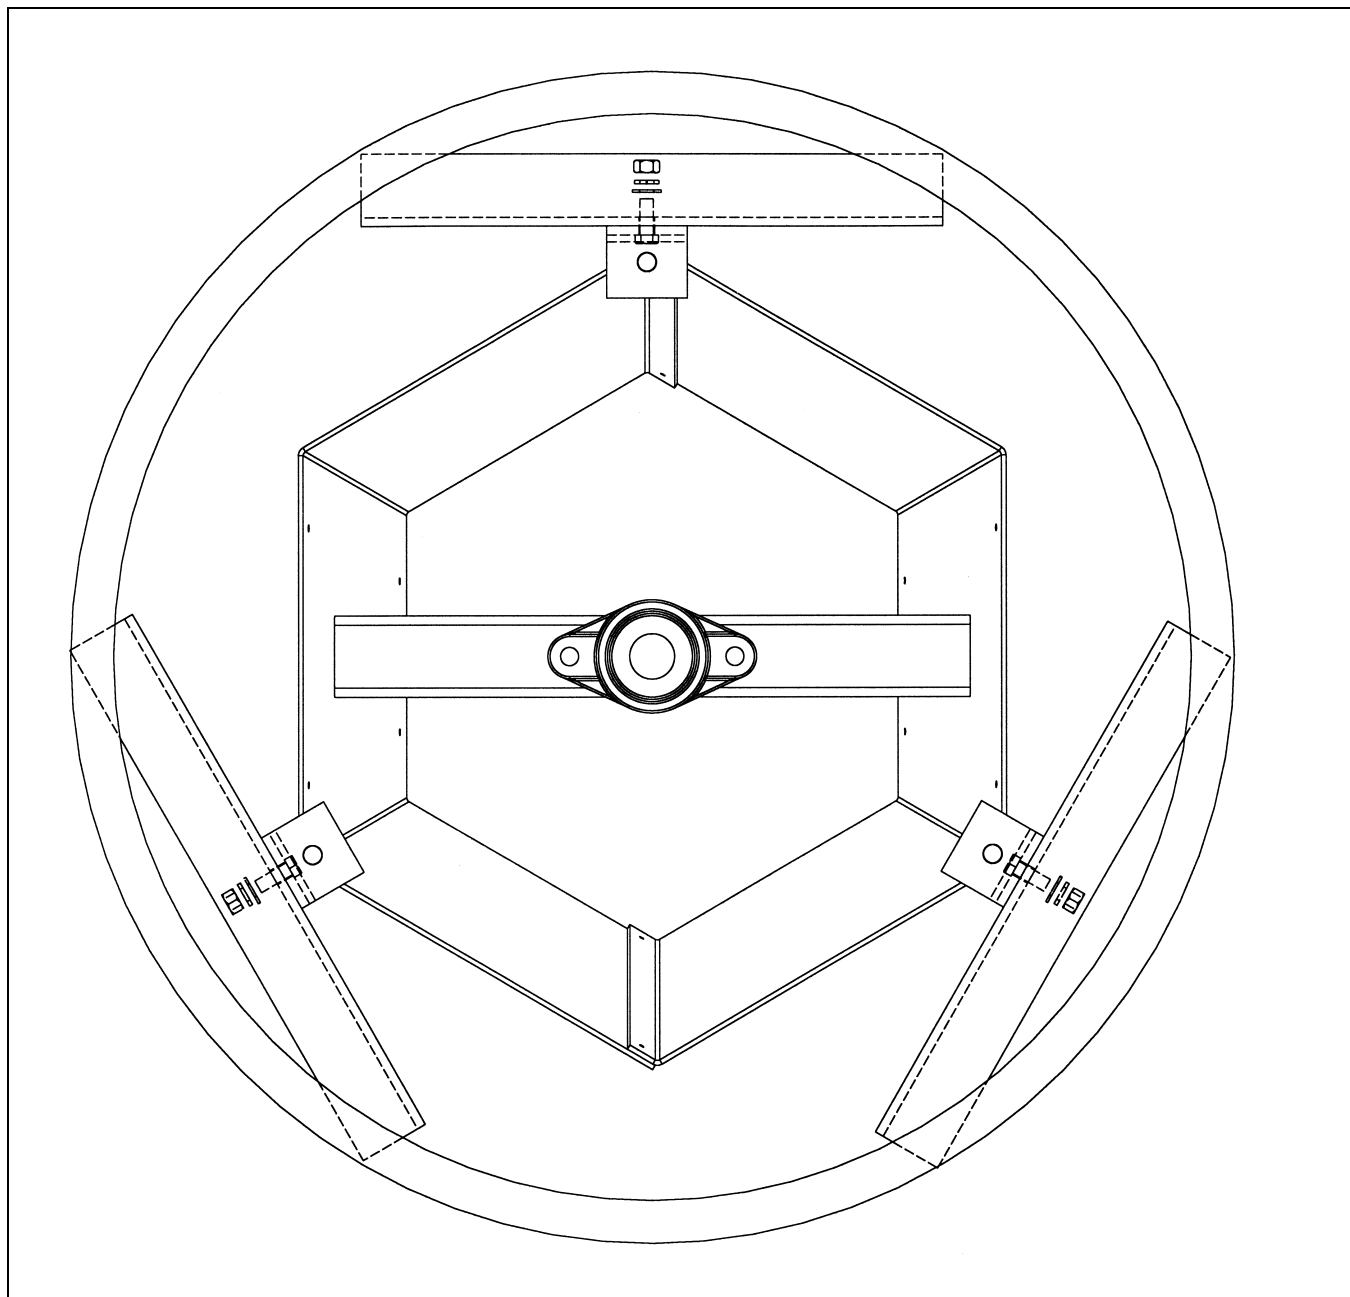

Figure 2B Model 10000 Installation
1. Assemble the center shaft (3072024-Y) and chute to the bottom of main chute (3072020-Y) with six (6) 3/8" x 1" bolts, lock washers and nuts.
2. Attach the counterweight support tube (3072013-Y) to the back of the main chute with two (2) 3/8" x 1" bolts, lock washers and nuts.
3. Slide the counterweight support channel (3072009-Y) over the shaft extending out of the center chute and fasten to the bottom of the main chute with two (2) 5/16" x 1" carriage bolts, flat washers, lock washers and nuts. Attach the other end of the channel to the counterweight tube with a 3/8" x 3-1/2" bolt, lock washer and nut.
4. Assemble two (2) 1-1/4" bearings (GK1330) with cast housings to the top of the channels in the spreader hopper with four (4) 7/16" x 1-1/2" bolts, lock washers and nuts. Do not tighten the mounting bolts at this time.
6. Tighten the mounting hardware for the two (2) bearings and lift the hopper up on the shaft as far as possible. Lock the bearings in place by tightening the locking collars in a counterclockwise direction when viewed from the top of the hopper.
7. Thread a 1/2" nut and flat washer onto each of the three (3) studs on the top of the hopper. Attach a angle hanger (3072014-Y) to each stud and secure with a flat washer and 1/2" nut.
8. Build a frame into the top and center of the bin to support the spreader. The outside face of the three (3) angle hangers on the hopper form a 21" diameter circle so the frame should be constructed in a triangle to allow the angle hangers to be bolted directly to the frame with three (3) 3/8" x 1" bolts, flat washers, lock washers and nuts. \(See Figure 2B on Page 12.\)